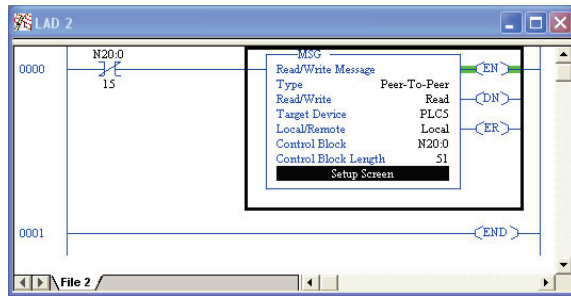

Figure 74: Completed PLC Program
- 7) The program is now complete. Refer to Figure 74.